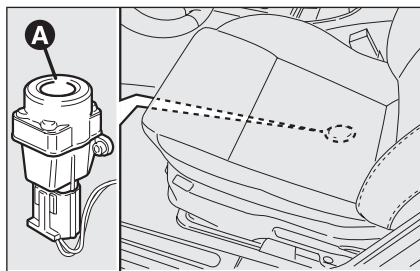

fig. 49
To reset the fuel cut-off switch, press button **A-fig. 49**.
- ☐ press button **A-fig. 49** to reset the fuel cut-off switch;